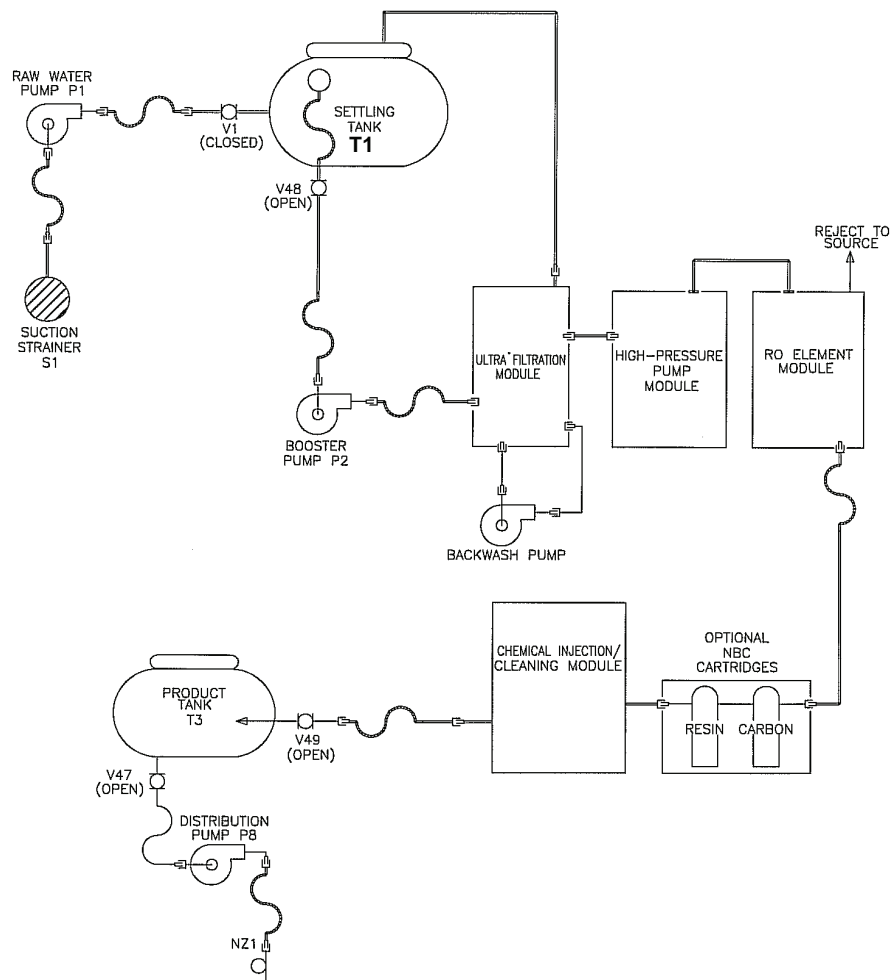

Figure 2. Layout for the Second Pass.
1. After completing the procedures for the first pass setup and operation, it is necessary to reconfigure the LWP to normal set up. Ensure that the raw water pump and booster pump hoses and cables are reconfigured correctly. Refer to Figure 2 as a guide in performing the procedures for setup and operation of the second pass.